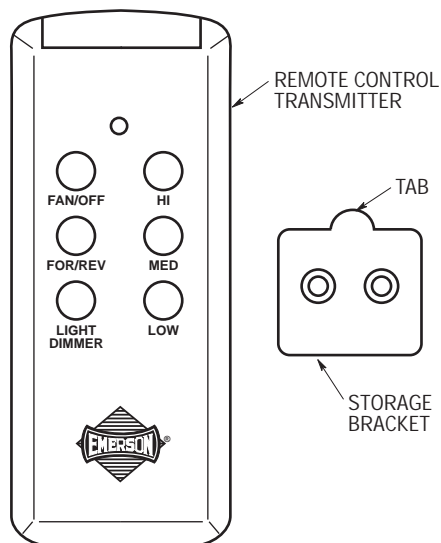

Figure 18
2. To set the desired fan speed, press the HI, MED, or LOW buttons to operate your fan on high, medium, or low speed (Figure 18).
A storage bracket is supplied with the remote control for holding the transmitter when not in use. If you desire to use the bracket, use the two screws (supplied) and install it on a wall that is away from excess heat or humidity. When installing, orient the bracket so that the tab is at the top and away from the wall (Figure 18).